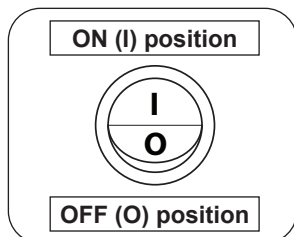

Fig. 24-2 On/Off switch
2. Press the on/off switch to the **ON (I)** position to ignite the burner (see Fig. 24-2). The valve will open and the burner will light.
To shut down the main burner (pilot will remain lit), press the on/off switch to **OFF (O)** (see Fig. 24-2).